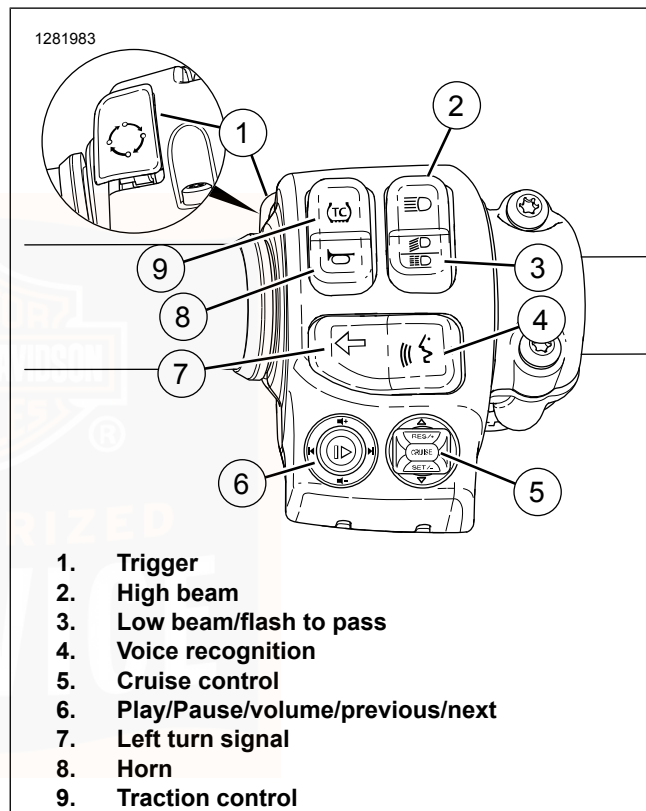

Figure 31. Left Hand Control Module
See Figure 31. **Vehicle off:** Press the trigger switch (1) to display the accumulated mileage on the IM. **Vehicle in accessory/ignition mode:** Press the trigger switch to cycle through the odometer functions. Refer to Table 35.
See Figure 31. Press the high beam switch (2) to activate the high beam. The (blue) high beam indicator lamp is lit when the high beam is on. Refer to Table 35.
Low beam: See Figure 31. Press the bottom of the low beam/flash to pass switch (3) to activate the low beam.
See Figure 31. The voice recognition switch (4) activates voice recognition features on a connected device (if supported). With a headset connected, press the voice command switch. Speak the desired command into the headset microphone.
See Figure 31. The CRUISE/SET/RESUME switch (5) automatically regulates the speed of the vehicle. See Cruise Control (Page 112) for detailed operation.
See Figure 31. The Play/Pause/Volume/Previous/Next (6) five-way switch operates radio features.
Activate: See Figure 31. Press the left turn signal switch (7) to activate the left turn signal. Refer to Table 35.
See Figure 31. The horn is operated by pressing the horn switch (8). The horn can be activated for up to 10 seconds at a time. If the horn switch is held for a longer period, the horn automatically deactivates. Refer to Table 35.
See Figure 31. The traction control switch (9) activates and deactivates the traction control system. Refer to Table 35.